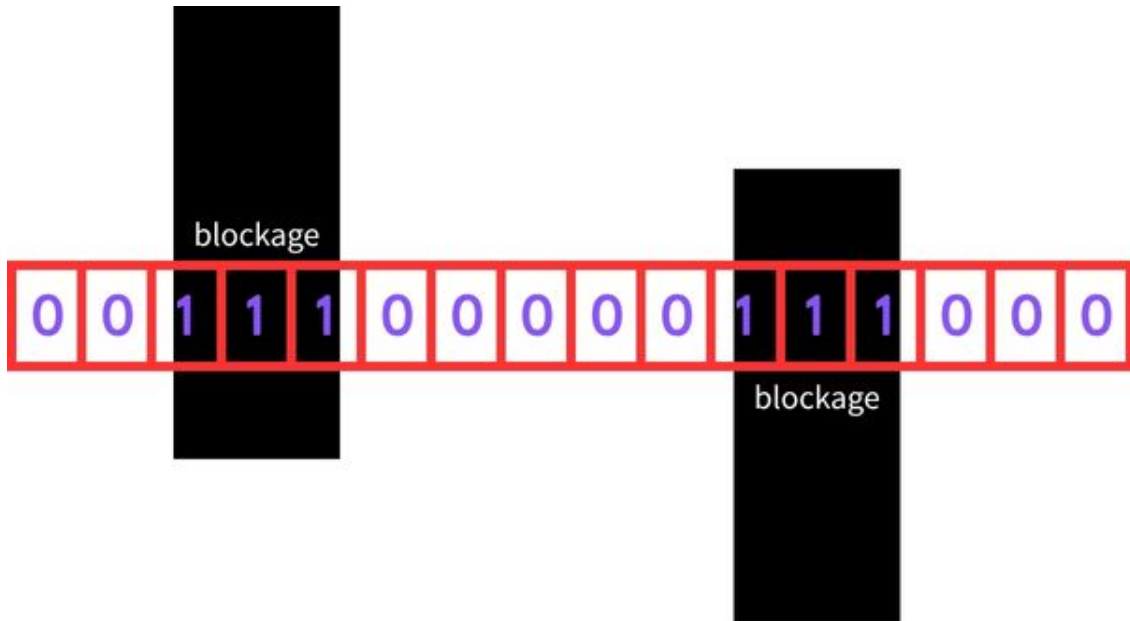

Figure 4.2: Put block into site
**Figure 4.2** show that assigning the blockage into row, if the blockage overlap with row then the site will assign to 1. **The site will be assign into 1 even if the overlap is just a little corner.**